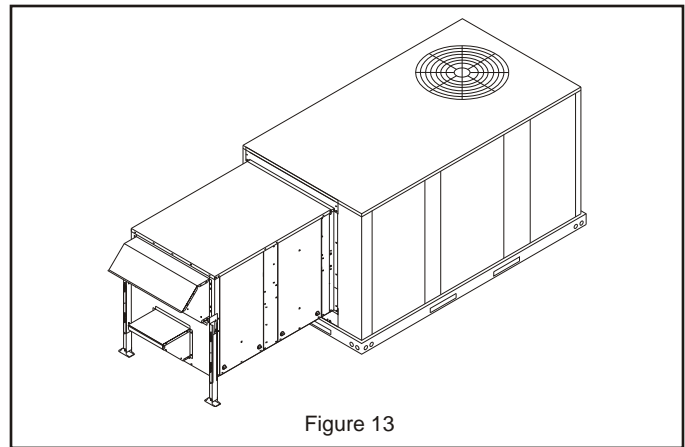

Figure 13
10. Check and seal, if necessary, along the edges where the ERS meets the rooftop unit to ensure there is no air leakage. Final assembly should resemble **Figure 13.**